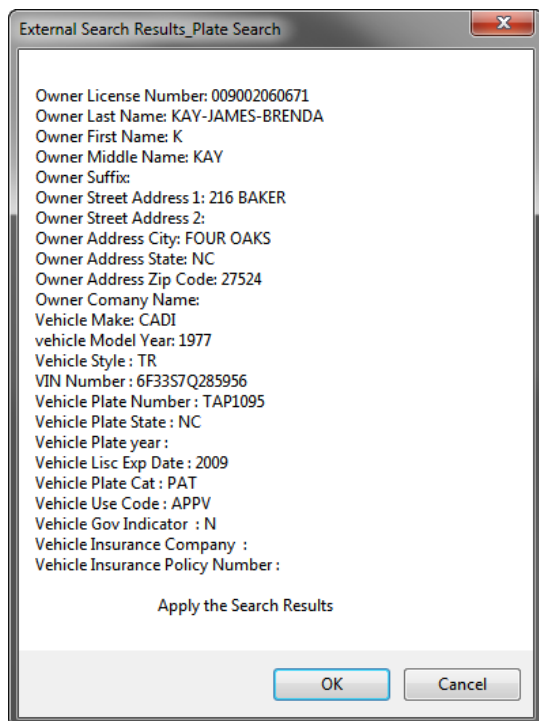

Figure 40. Search by License Plate Number Results Example
2. To search by the license plate number, enter the license plate number in the **License Plate Number** field and click **Search**. If a match exists, the results display, as shown in Figure 40.